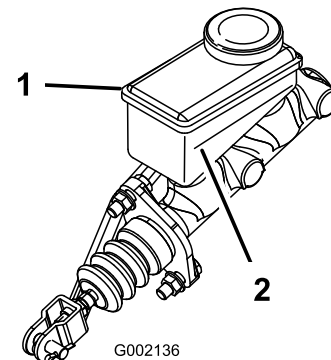

Figure 49
3. Look at the outline of the fluid level at the side of the reservoir (Figure 49).
- B. Add DOT 3 brake fluid to the reservoir until the fluid level is above the Minimum line (Figure 49).